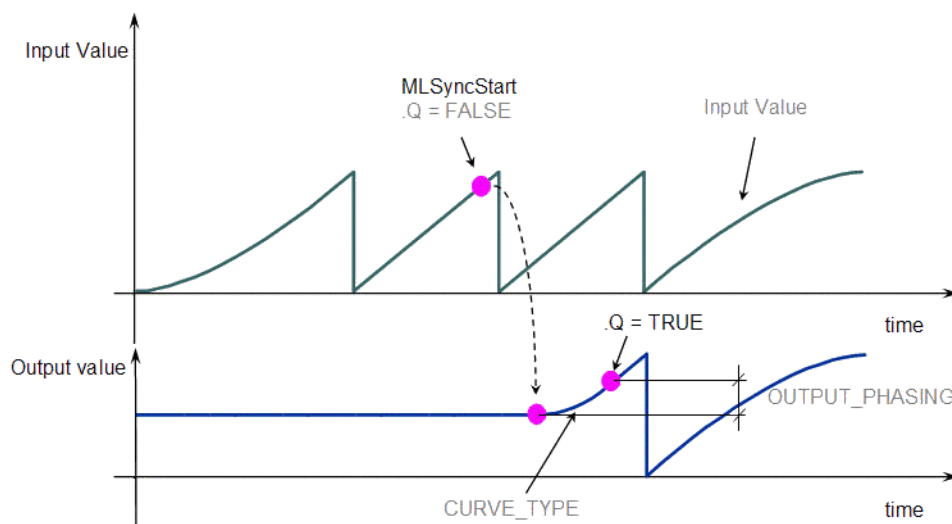

Figure 4-60: Get Output Phasing after **MLSyncStart**
- The OUTPUT_PHASING parameter is used to define a curve in order to smooth the output value. (Figure 4-60)